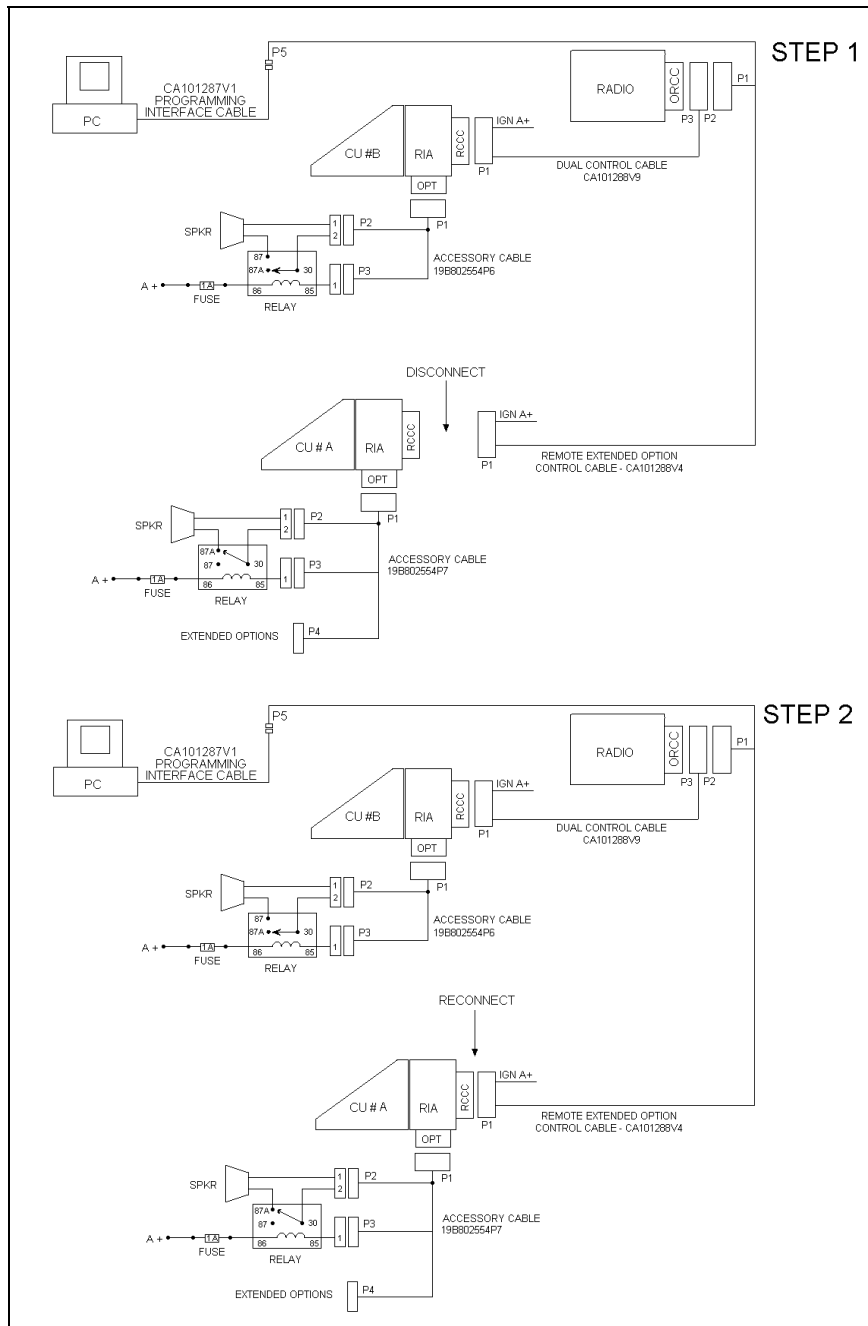

Figure 29 M7100^{IP} Field Programming – Dual Control Unit Remote/Remote Mount Configuration
1. Configure the M7100^{IP} Remote Mount Radio per ProGrammer setup as shown in Figure 29, Step 1 with Control Unit #A disconnected. Program the radio with the control configurations shown in Step 1 of “Pre-Installation Programming Procedure with ProGrammer – Remote Mount” and adjust as necessary for the specific application.
2. Now configure the Remote Mount Radio and Auxiliary Control Unit per ProGrammer setup as shown in Figure 29, Step 2, with Control Unit #A. Program the configurations shown in Step 2 of “Pre-Installation Programming Procedure with ProGrammer – Remote Mount” and adjust as necessary for the specific application.